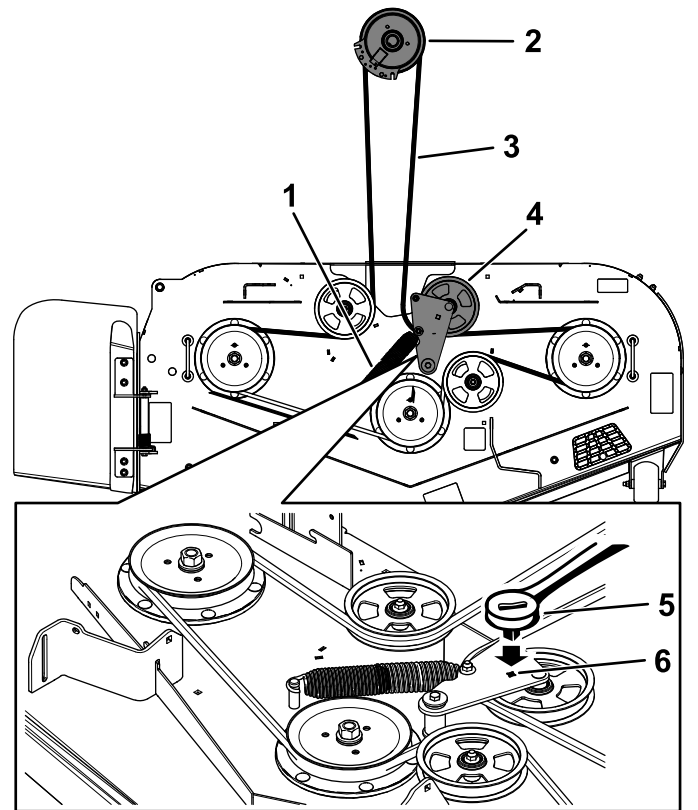

Figure 58
13. Install the belt guide on the idler arm (Figure 58).
14. Using the 3/8-inch ratchet in the square hole, install the idler spring (Figure 58).
8. Use a 3/8-inch ratchet in the square hole in the idler arm to remove tension on the idler spring (Figure 58).
10. Remove the belt guide on the spring-loaded idler arm (Figure 58).
12. Install the new belt around the mower pulleys and the clutch pulley under the engine (Figure 58).